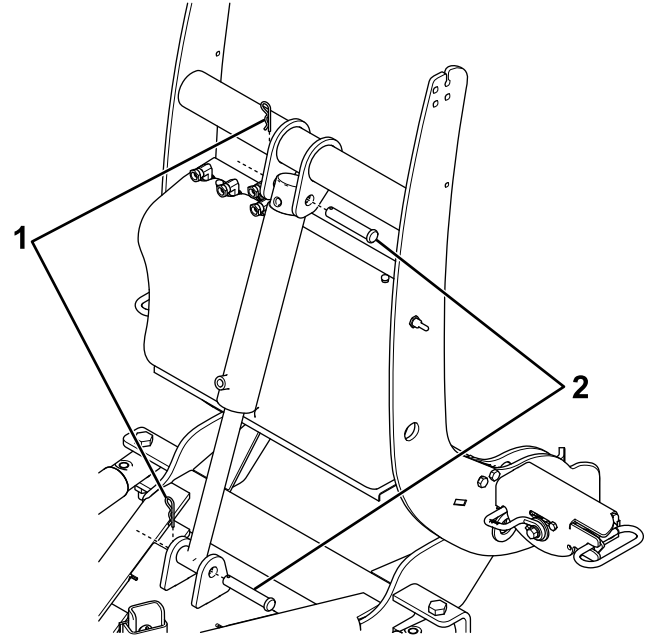

Figure 9
7. Secure the rod end of the lift cylinder to the push-frame assembly using a clevis pin (5/8 inch) and hairpin cotter (Figure 9).
8. Secure the free end of the lift cylinder to the coupler tower using a clevis pin (5/8 inch) and hairpin cotter (Figure 9).